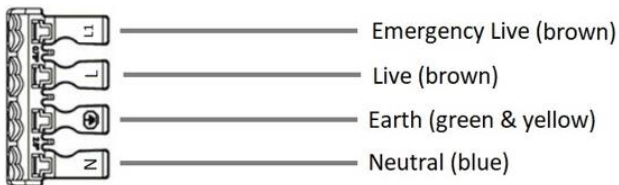

Fig. 2
- Ensuring correct polarity is observed, carefully wire as shown in Fig. 2
- Connect to the mains supply ensuring the correct polarity is observed: L – Live, L1 – Emergency Live (brown), E – Earth (green/yellow), N – Neutral (blue) (see Fig. 2). Two cables can be inserted into the push-fit terminal block in order to achieve loop-in/loop-out wiring